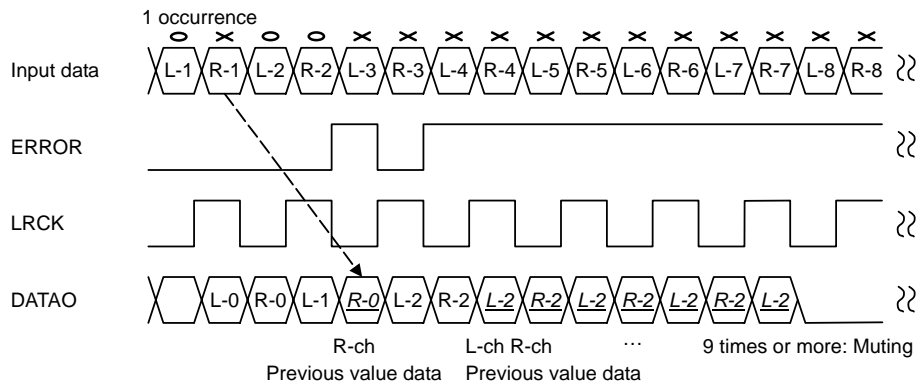

Figure 12.7 Example of Data Processing Upon Parity Error Occurrence (non delay setting)
- Figure 12.7 shows an example of data processing upon occurrence of a parity error